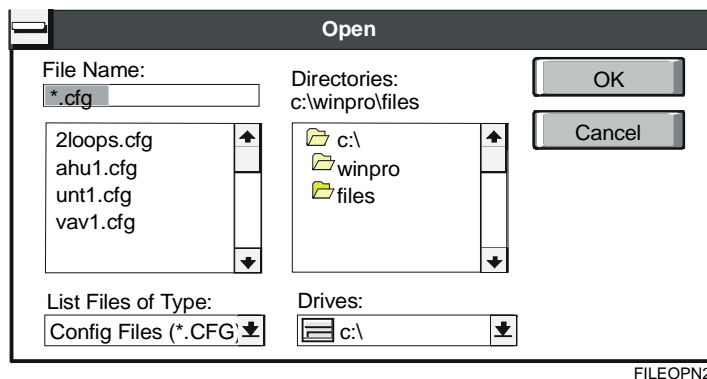

Figure 2-4: Open File Dialog Box
1. On the File menu, click Open. The Open dialog box appears (Figure 2-4).